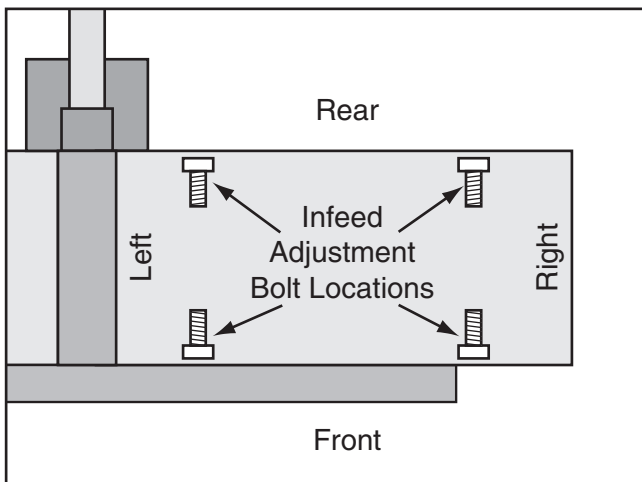

Figure 73. Locations of the infeed table adjustment bolts.
5. Use the same process you performed in **Step 9 on Page 46** to raise or lower the left or right end of the infeed table to eliminate the gaps. Adjust the adjustment bolts equally on each side for the targeted end of the table, one after the other, in very small increments (see **Figure 73**).